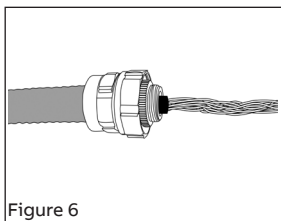

Figure 6
- Trim inner jacket (to length of 1/8"-3/8") and expose conductor bundle (Figure 6).